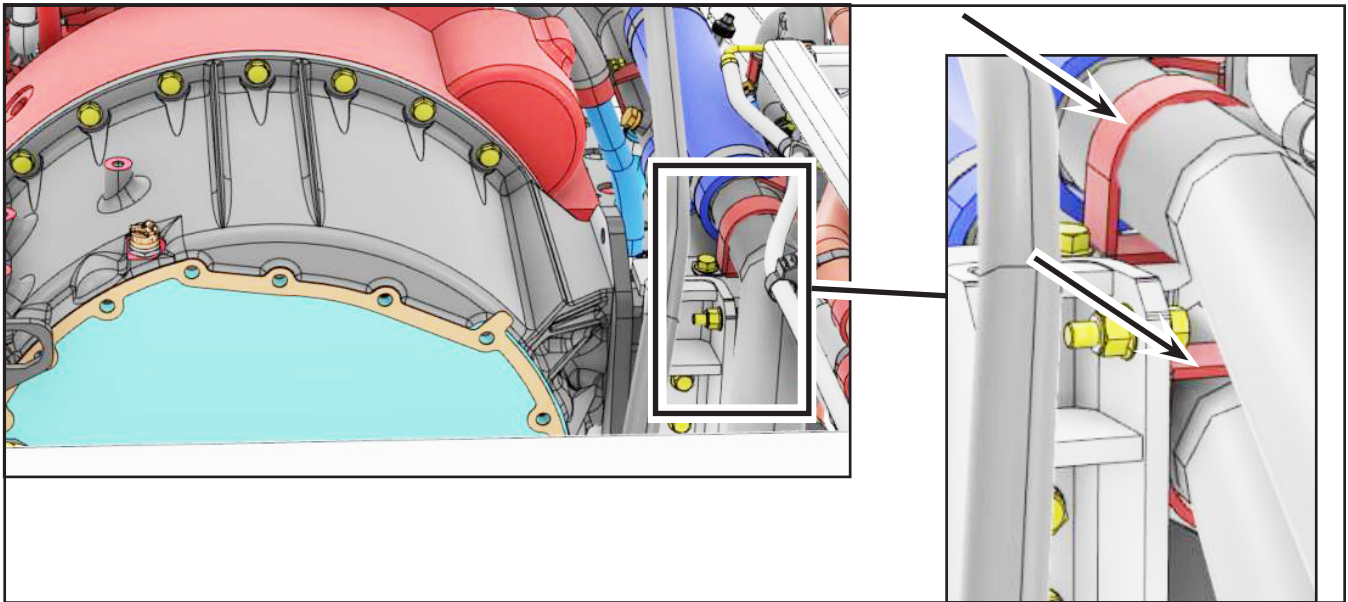

Figure 2 - The two P-clamps Securing the two Transmission Coolant Pipes
- 1.5. Locate the two P-Clamps mounted on the engine cradle bracket that secure the two coolant pipes (Figure 2).